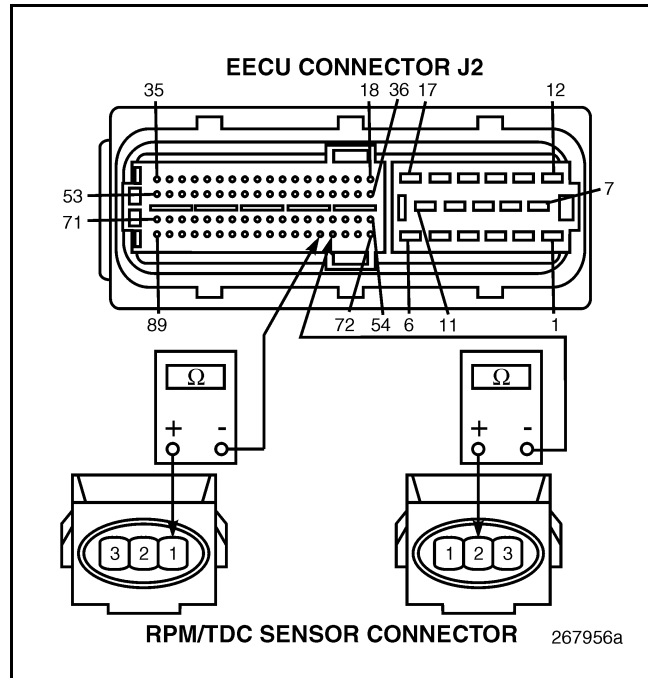

Figure 386
2. Disconnect the Engine Position (EP) Sensor connector.
4. Have a helper wiggle the harness while you check for continuity between Engine Position (EP) Sensor connector pin 1 and EECU connector J2 pin 76 and between Engine Position (EP) Sensor connector pin 2 and EECU connector J2 pin 75 (see Figure 386).